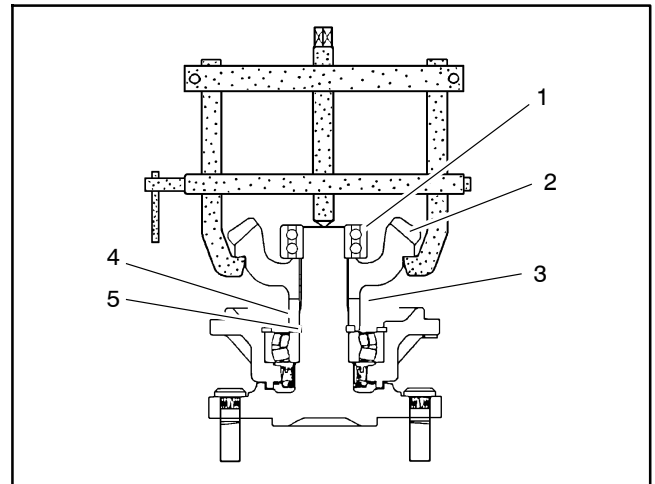

Figure 33
2. Use a bearing puller to remove the bearing and bevel gear as shown (Fig. 33).